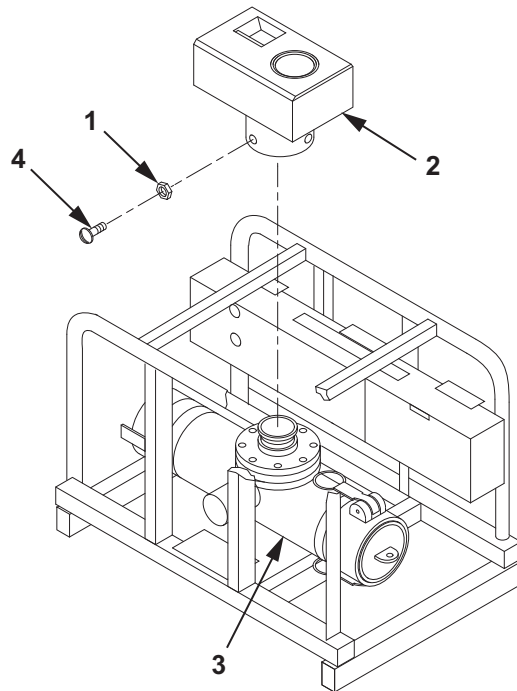

Figure 1. Register Readout Removal.
1. Loosen three locknuts (Figure 1, Item 1) and three setscrews (Figure 1, Item 4) on register readout (Figure 1, Item 2).
2. Turn the register readout (Figure 1, Item 2) counterclockwise and remove from flowmeter (Figure 1, Item 3).
1. Position register readout (Figure 1, Item 2) on flowmeter (Figure 1, Item 3).
2. Install register readout (Figure 1, Item 2) by turning counterclockwise on flowmeter (Figure 1, Item 3).
3. Using torque wrench and screwdriver bit, torque three setscrews (Figure 1, Item 4) to 40 in. lb (4.5 N·m).
4. Tighten three locknuts (Figure 1, Item 1) on register readout (Figure 1, Item 2).